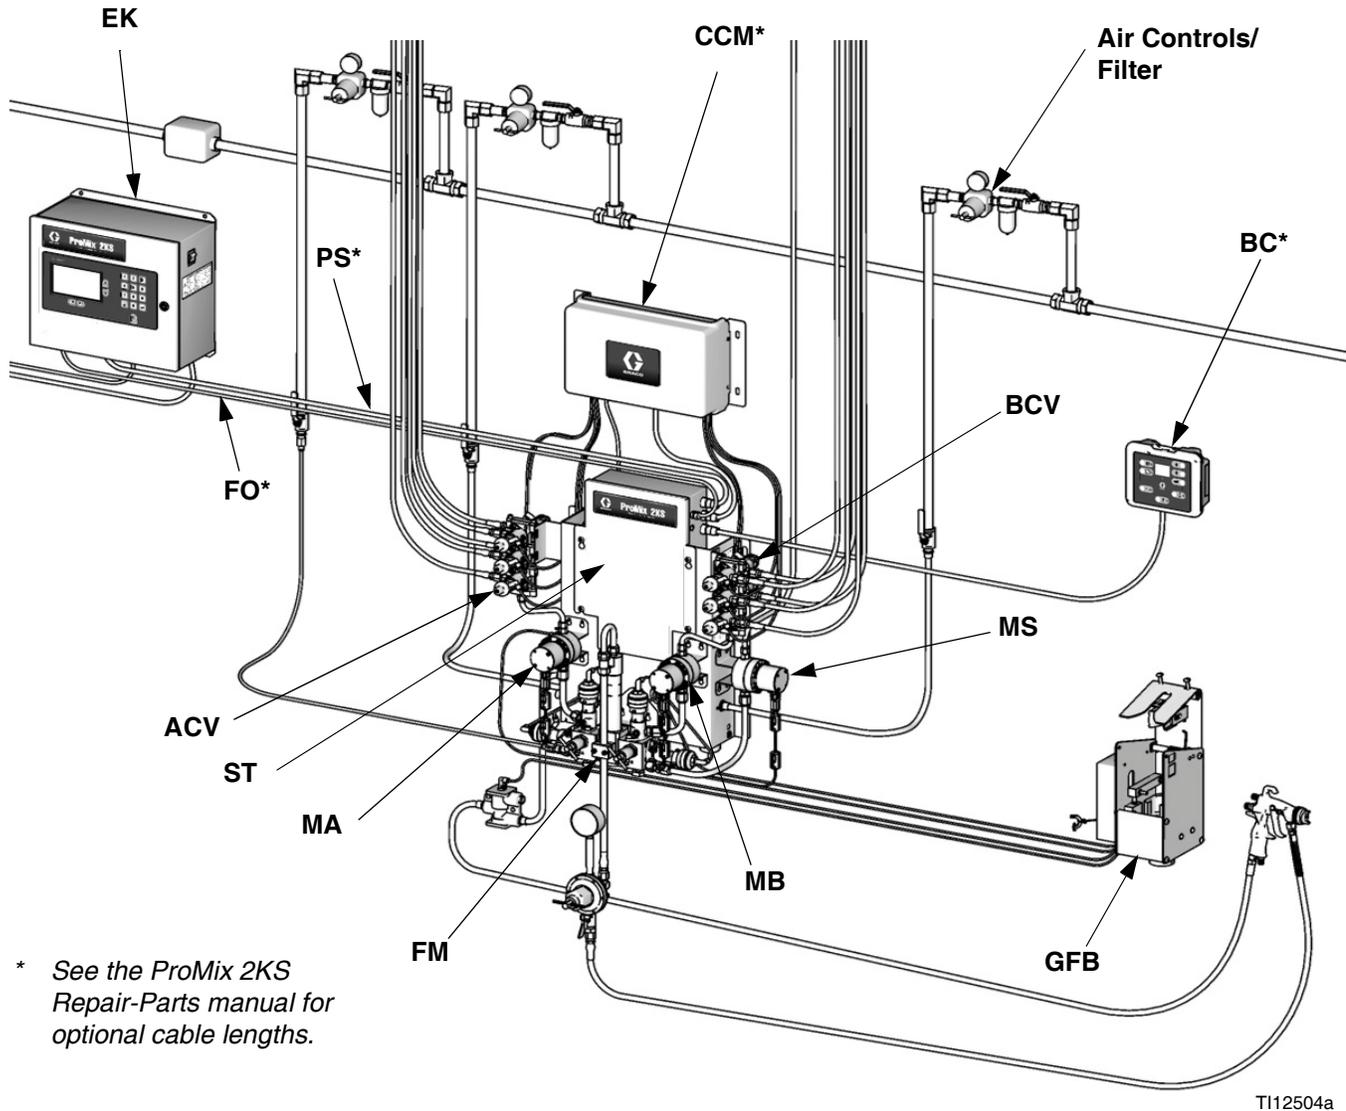

FIG. 2. Manual System, shown with G3000 Meters, Color/Catalyst Change, One Gun Flush Box, and Accessory Solvent Flow Meter
- FIG. 2, page 10, shows the basic components of a manual system. Contact your Graco distributor for actual system designs.
- **Air line filter:** a 10 micron or better air filter is recommended to filter oil and water out of the air supply and help avoid paint contamination and clogged solenoids. See FIG. 2.